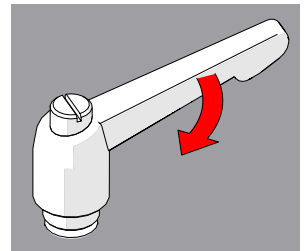

Fig. 28 - Tighten handle
3. Release the lever and utilize the new tightening position (Fig. 28).